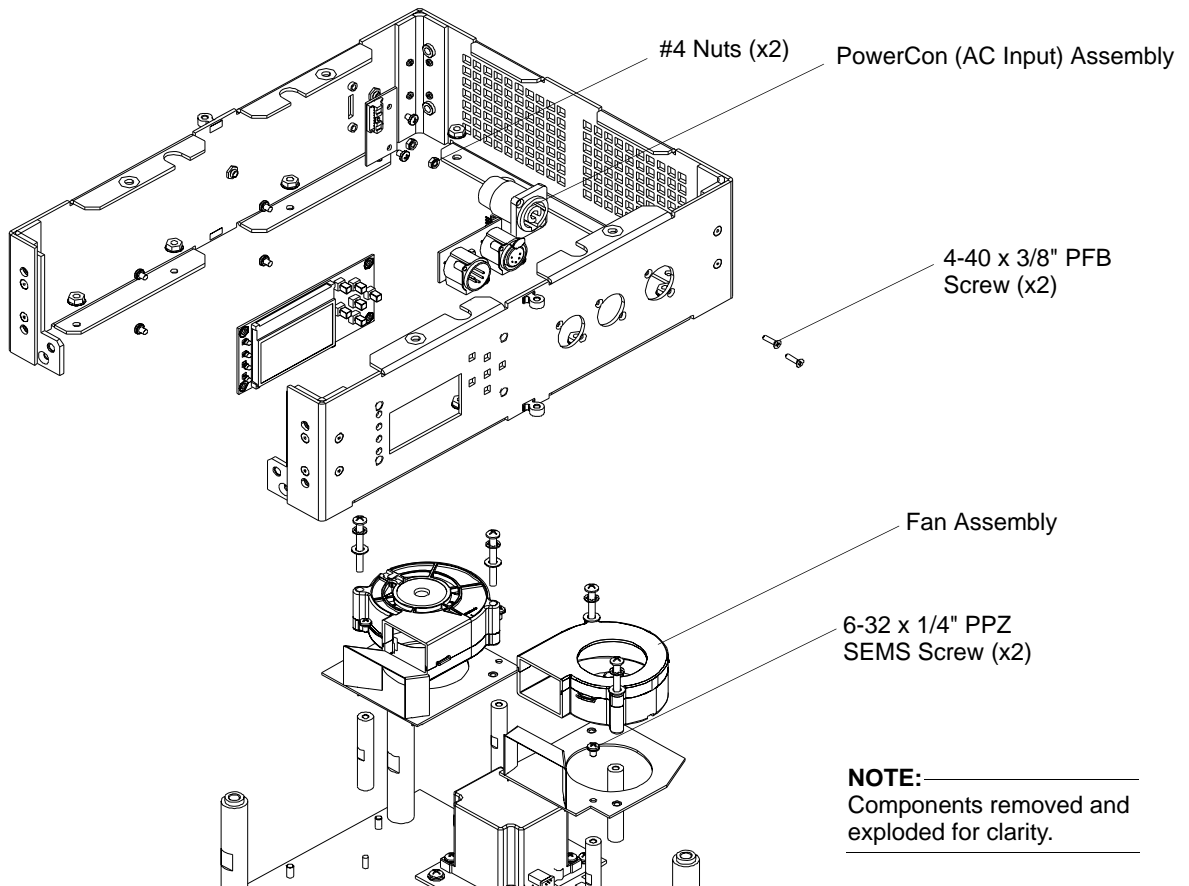

Figure 2-47: PowerCon (AC Input) Assembly Removal
Step 5. As indicated in Figure 2-47, remove fan assembly by removing two 6-32 x 1/4" PPZ SEMS screws.